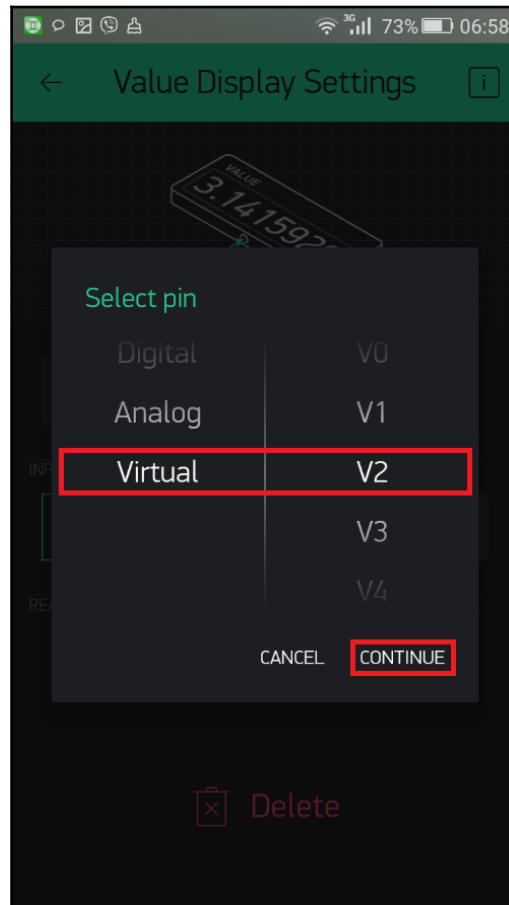

Figure 3.8: Selecting a virtual pin
5. Under **INPUT**, select the PIN as **Virtual** pin **V2**. Then, tap **CONTINUE** to apply the changes (Figure 3.8):